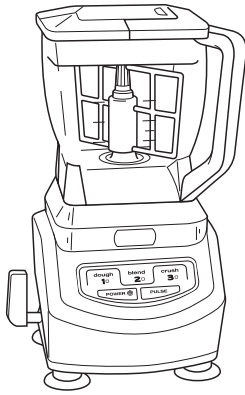
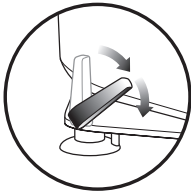

Fig. 11
Fig. 11a
- 1 Place the motor base on a clean, dry, level surface such as a counter or table top. (Fig. 11) Push the suction lever on the side of the base down to secure the suction feet to the surface. (Fig. 11a) If the suction feet have not totally adhered to the surface, press down slightly on the base to give the suction feet a better grip.
- 4 Add the ingredients and secure the bowl lid onto the bowl. (Fig. 11)